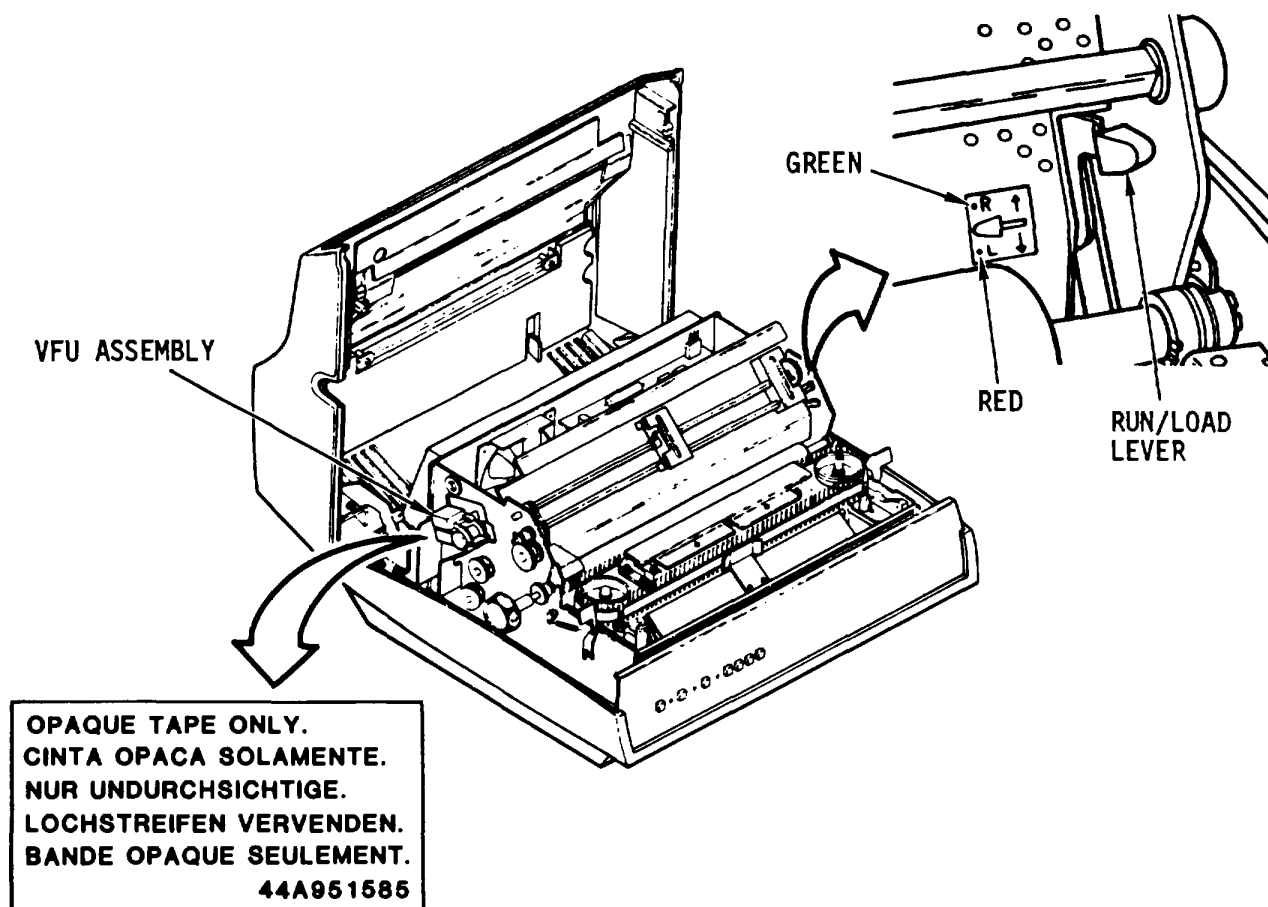

Figure 2-9. Operation Decals
a. RUN/LOAD Lever Decal. This decal is located near the RUN/LOAD lever (fig. 2-9) and shows how the lever must be set for RUN (R) or for LOAD (L).
b. VFU Tape Decal. This decal (fig. 2-9) is located on the VFU assembly and